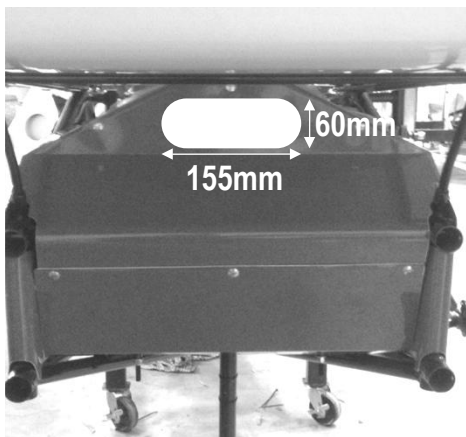
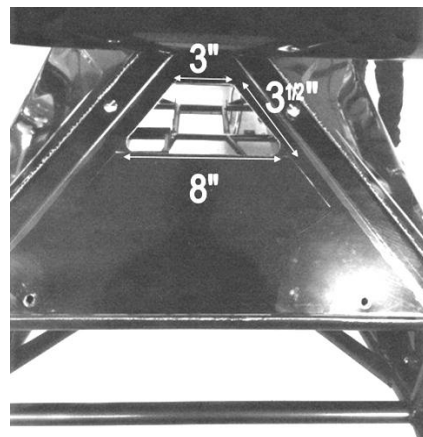

Figure 1: Bicknell Racing Products body 2014+
Figure 2: TEO Pro Car Body 2015 +
12.9.3 Body styles which do not allow for the preceding fire extinguisher access holes may apply for special consideration; Bicknell Racing Products 2014 + body style (Figure 1) and Teo Pro Car bodies 2015+ (Figure 2) have received approval and must be in accordance with illustrations.